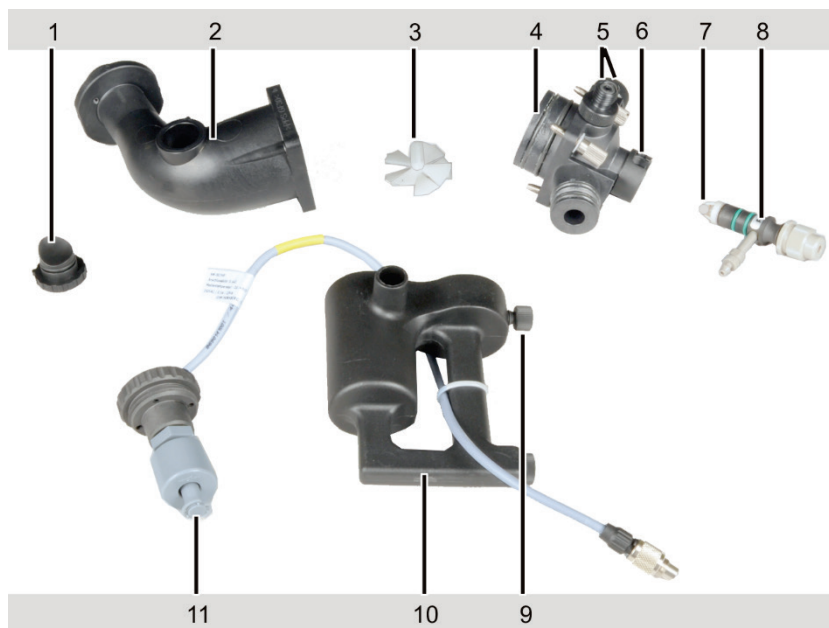

Fig. 59 Remove and disassemble the burner-nebulizer system
6. Loosen the knurled head screw of the siphon (9 in Fig. 59 p. 89) and pull the siphon down.
8. Unscrew the insert of the siphon sensor, remove the sensor from the siphon (11 in Fig. 59).
10. Withdraw the safety plug (1 in Fig. 59) from the mixing chamber.
12. Remove the impeller (3 in Fig. 59) from the chamber tube.
2. Turn the impact bead (7 in Fig. 59 p. 89) slightly and pull it off the nebulizer. Should the impact bead stuck; put the nebulizer again in the ultrasonic bath.
4. Screw the siphon sensor (11 in Fig. 59 p. 89) in the siphon. Stick the siphon on the chamber head, align the sides so that they are flush and fasten with knurled head screw (9 in Fig. 59).
5. Attach the safety plug (1 in Fig. 59) on the chamber tube.
6. Screw the connections for fuel gas and additional oxidant (5 in Fig. 59) with the sealing rings into the mixing chamber head.
7. Stick the nebulizer (8 in Fig. 59) into the chamber head and fasten using the locking ring. **Note:** If the nebulizer cannot be stuck easily into the chamber head, slightly grease the sealing rings with the lubricant supplied (Apiezon grease).